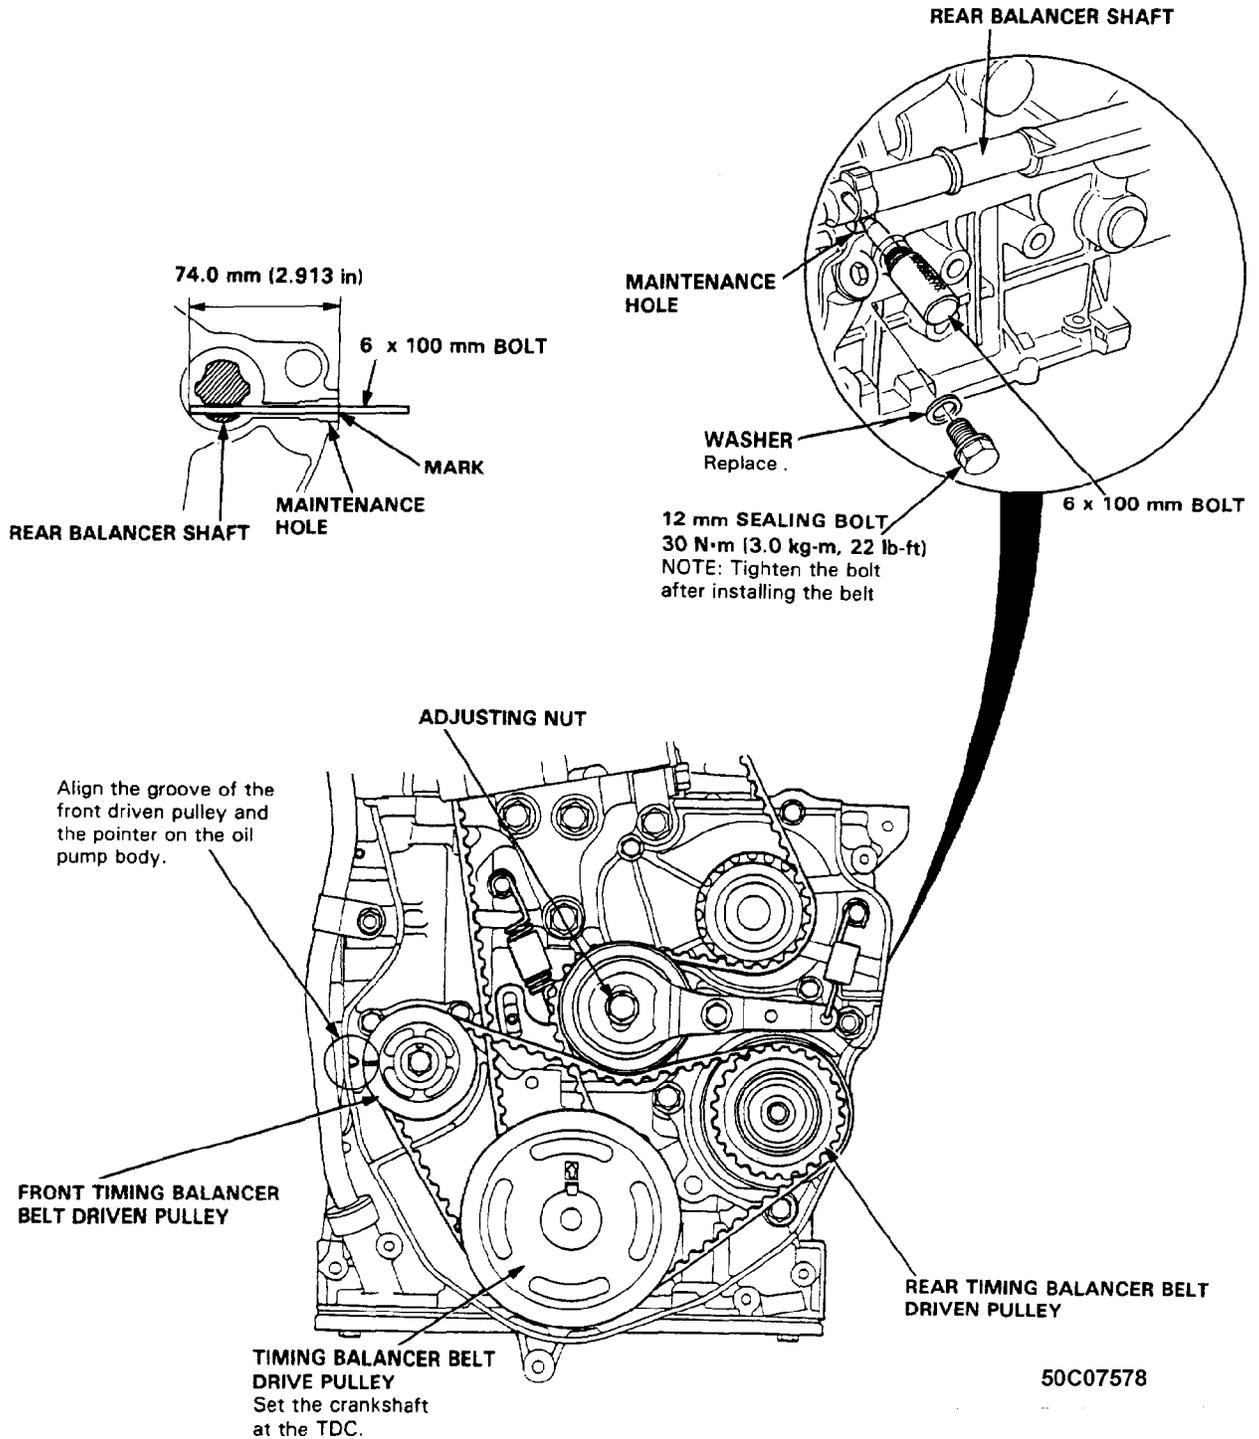
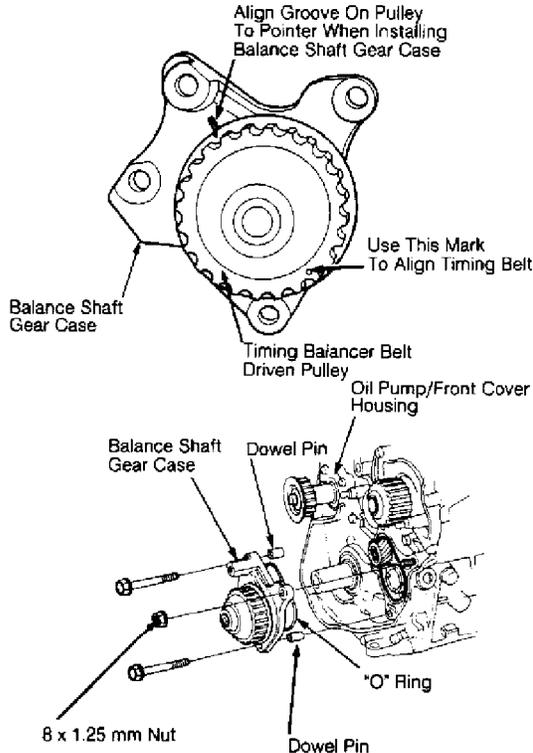

Fig. 9: Installing Timing & Balancer Belt
Fig. 11: Installing Balance Shafts
1) Ensure crankshaft and camshaft are at TDC position for No. 1 cylinder. Install camshaft timing belt. See Fig. 9. Align groove on front timing balancer belt driven pulley with pointer on oil pump body. Align rear timing balancer belt driven pulley by inserting a 6 x 100 mm bolt (or equivalent) 74 mm into alignment access hole.
2) Use Seal Driver (#07LAD-PT3010A) to install new seal. Reinstall and align camshaft timing and balancer shaft drive belts. See TIMING & BALANCER SHAFT BELTS R & I in this article. To complete installation, reverse removal procedure. See Fig. 9. Refer to TORQUE SPECIFICATIONS at end of article.
1) Remove oil pan, flywheel and right side (flywheel) crankshaft oil seal cover. Remove timing belts. Refer to TIMING & BALANCER SHAFT BELTS R & I in this article. Remove balancer shaft drive gear case. See Fig. 11. Insert a screwdriver into cross-drilled front balance shaft and remove driven pulley.
2) Insert a dowel pin or special tool in maintenance hole of rear balance shaft. See Fig. 9. Remove rear timing balance shaft driven gear. Remove oil pick-up and filter screen. Remove front-cover/oil-pump assembly. Remove thrust plate from rear balancer shaft. Remove balancer shafts.
3) Use special tool or dowel to align rear balance shaft. See Fig. 9. Align groove in balancer driven pulley with pointer on balancer gear case. Install balancer gear case on engine. An additional mark is on one of pulley teeth for belt alignment. See Fig. 11.